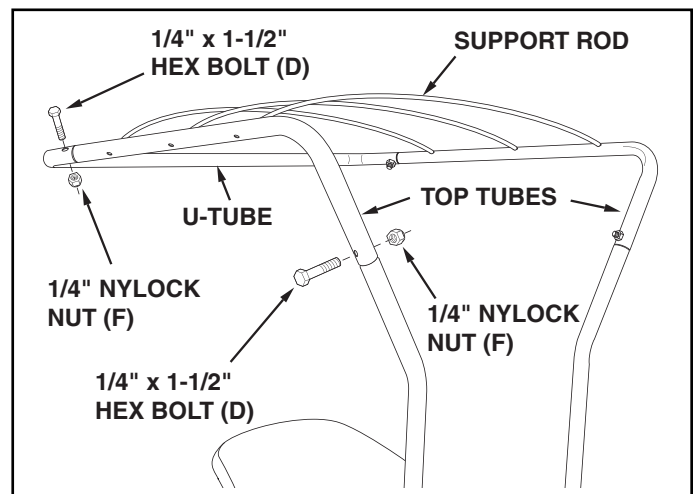

FIGURE 10
STEP 9: (SEE FIGURE 10)
- Assemble the top tubes to the upright tubes using two 1/4" x 1-1/2" hex bolts (D) (outside) and two 1/4" nylock nuts (F) (inside). **Do not tighten yet.**
- Fit the front U-tube onto the top tubes. Fasten the tubes together using two 1/4" x 1-1/2" hex bolts (D) (outside) and two 1/4" nylock nuts (F) (inside). **Tighten all** loose bolts and nuts.